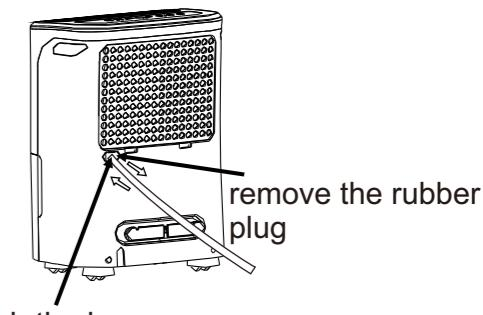

Fig.7
- Remove the rubber plug from the back drain hose outlet. Attach a drain hose(ID=13.5mm) and lead it to the floor drain or a suitable drainage facility(see Fig.7).